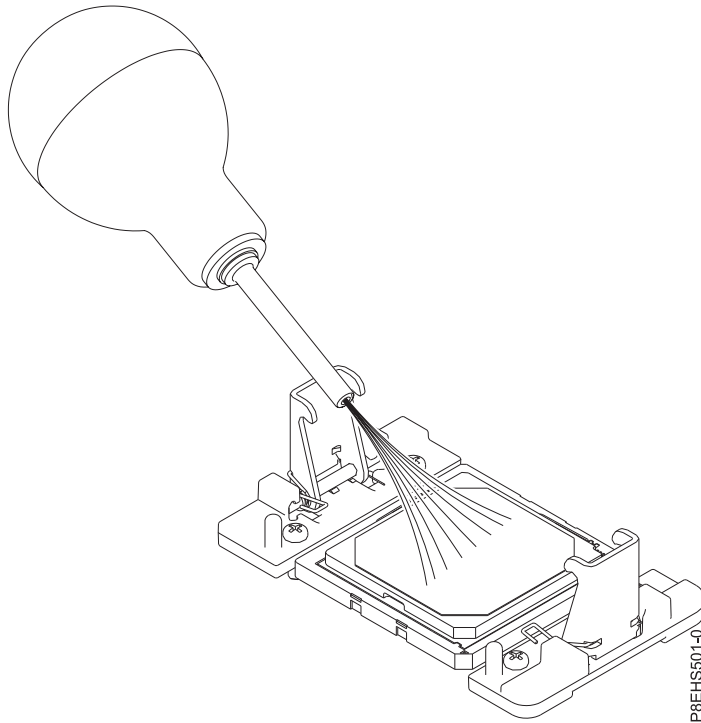

Figure 182. Removing dust and debris from the system processor module area
4. Remove dust and debris from the system processor module area. If dust or debris is present, use the supplied air pump (part number 45D2645) to clean the system processor module area. Blow small bursts of air from the center toward the sides of the system processor module as shown in Figure 182 on page 159. If your air pump is not assembled as shown in Figure 182 on page 159, fasten the tip onto the bulb.